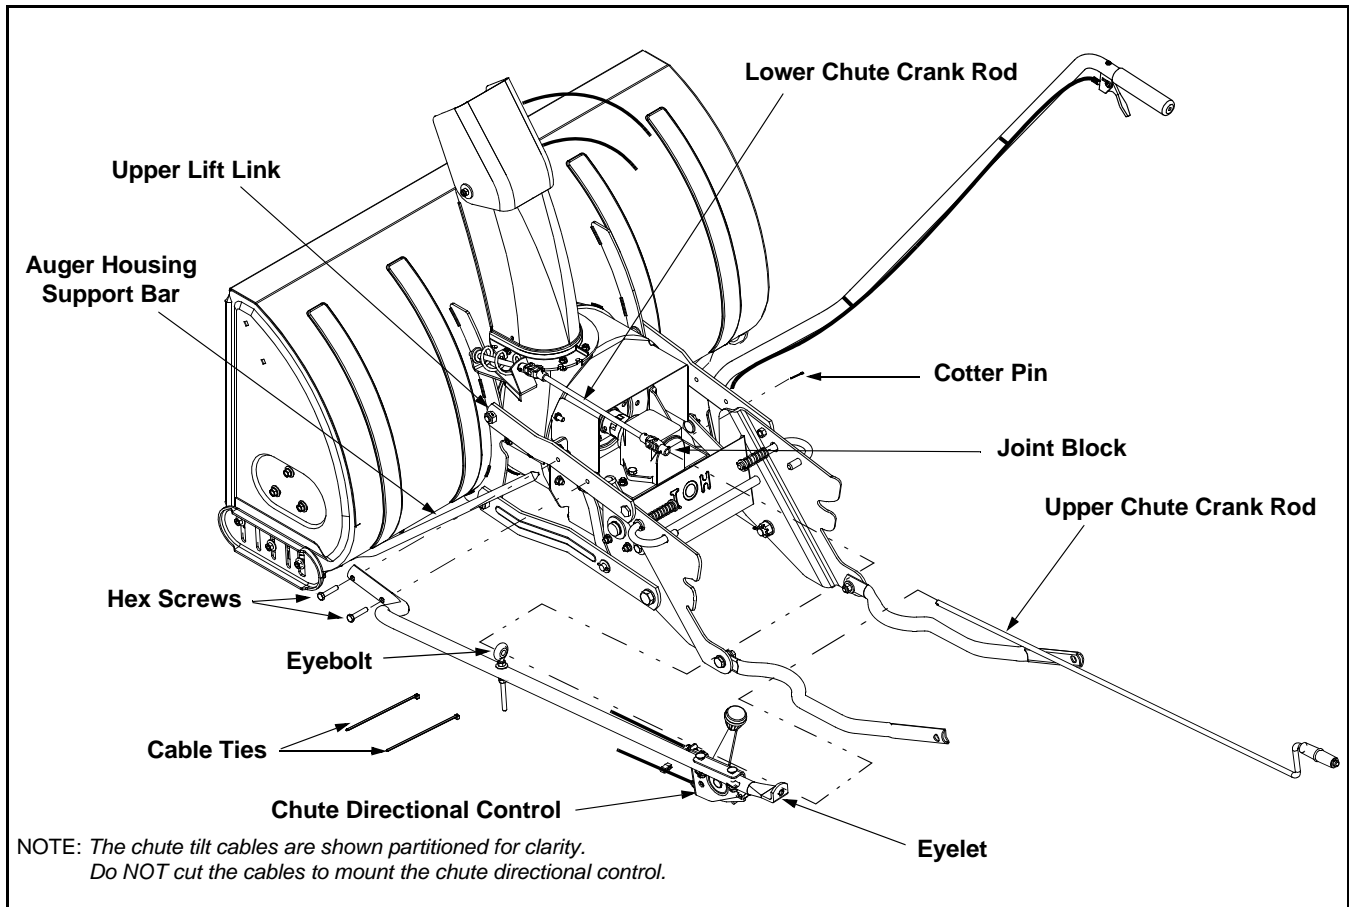

Figure 13
1. Attach the chute directional control assembly to the upper lift link on the left side of the auger housing assembly with two hex screws as illustrated in Figure 13. Secure with two flange nuts.
2. Slide the upper chute crank rod through the eyelet in the top of the chute directional control, the eyebolt found midway down and into the joint block found on the lower chute crank rod. See Figure 13.
3. Secure the upper chute crank rod to the joint block on the lower chute crank rod with the cotter pin provided. See Figure 13.
5. Grasp the auger housing support bar, refer to Figure 13, found on the left rear portion of the auger housing. Have an assistant grasp the support bar found on the right rear portion of the auger housing.